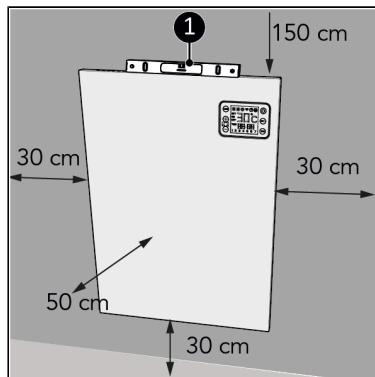

Figure 23.
1. Place the device on a non-flammable and solid wall. Use a spirit level when placing the device (Figure 23, pos. 1).
2. Place the device with a minimum distance (Figure 23) of: